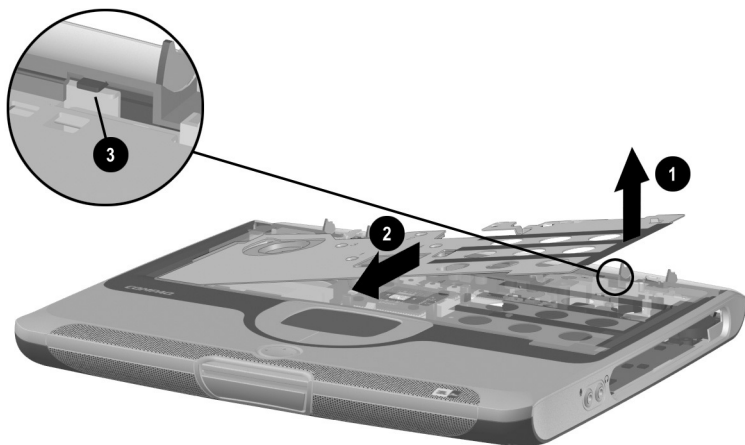

Figure 5-27. Removing the Heat Spreader
4. Lift up the front right side of the heat spreader ❶ and slide it forward ❷ until the back edge of the heat spreader clears the tab ❸ on the base enclosure (Figure 5-27).